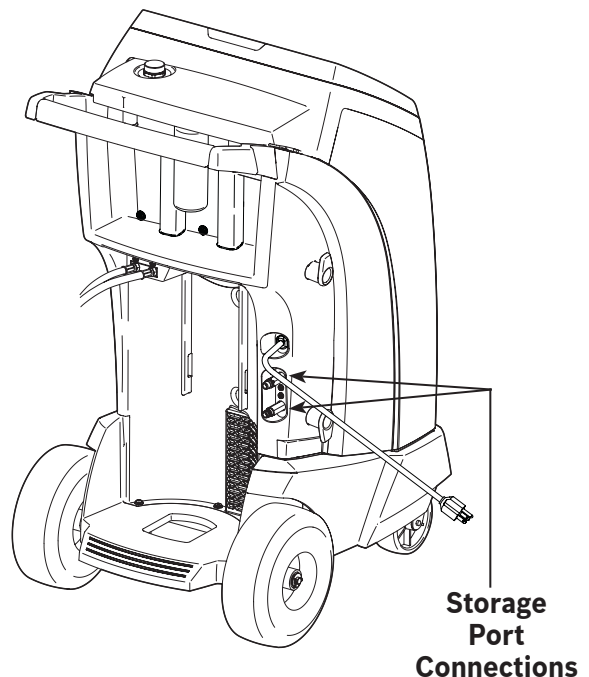

Figure 3
2. Connect the service hoses to the machine's storage port connections as shown in Figure 3.